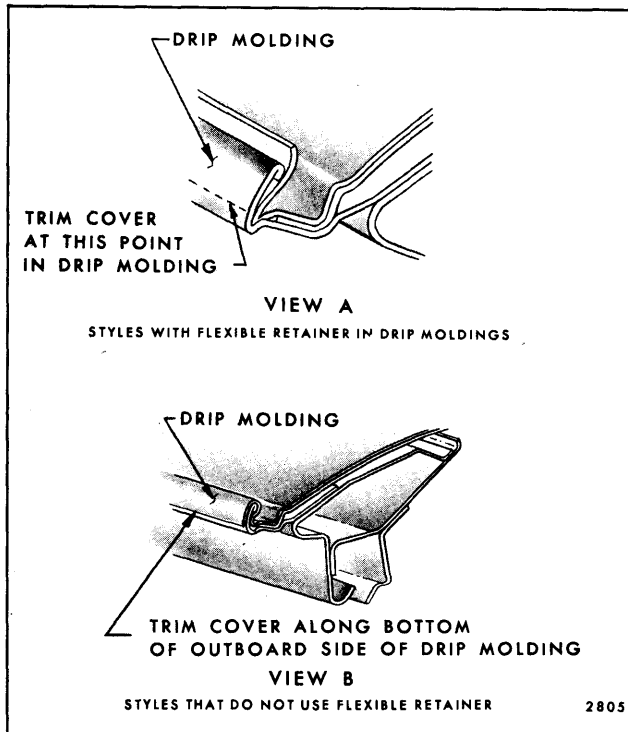

Fig. 12-3—Trimming Fabric Roof Cover at Drip Molding Area
- a. On all styles except "X" bodies, "E" bodies that do not utilize roof panel moldings and "A" body "69 and 80" styles, cement cover into and around outboard side of drip molding as shown in View "B", Figure 12-3 and trim cover along outside bottom edge of molding.
- b. On all other styles, cement cover into drip molding and trim cover just under lip on inside of drip molding (View "A", Figure 12-3). When trimming cover, tool J-21092 or other suitable knife may be used (Fig. 12-4).